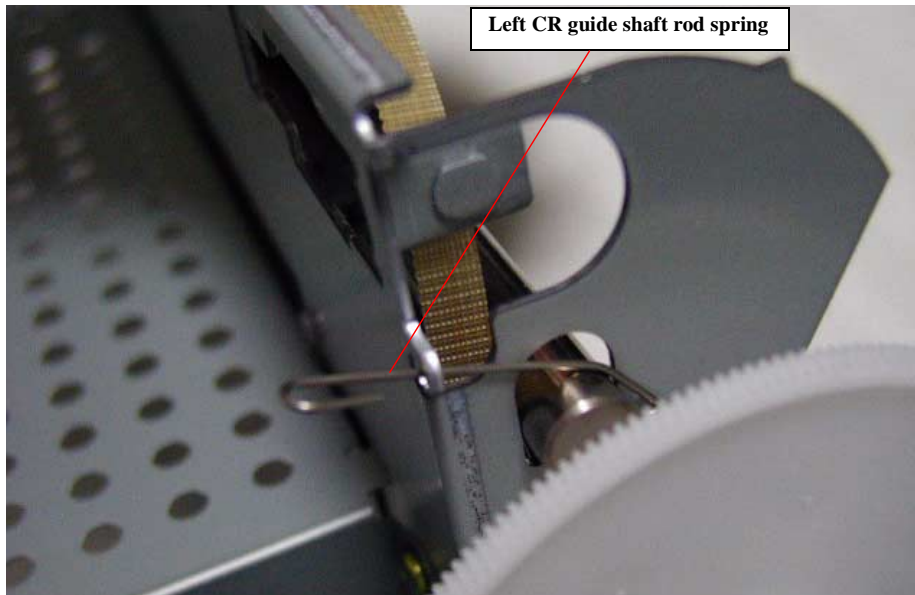
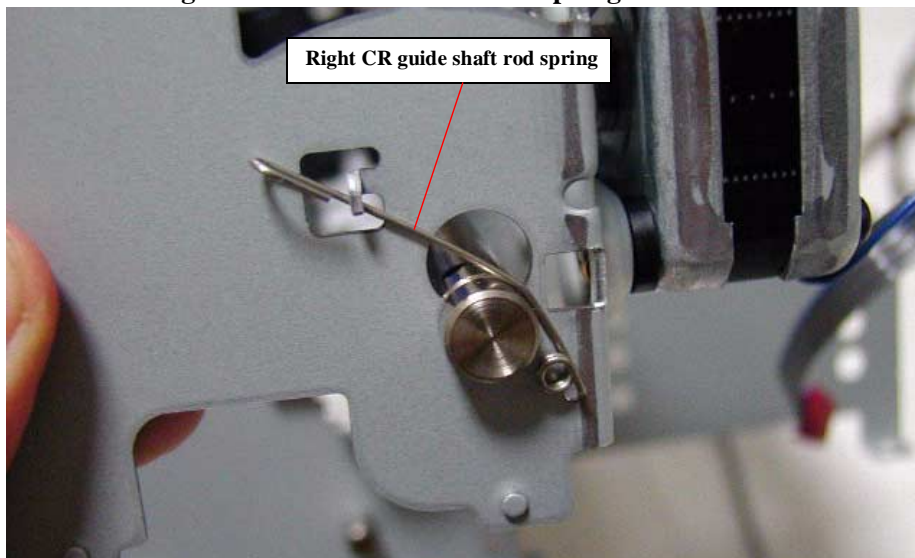

Figure 4-44. Release Left Rod spring for CR shaft
Figure 4-45. Release Right Rod spring for CR shaft
- Make sure that the CR guide shaft rod springs are correctly set in the suitable position. Refer to Figure 4-44, Figure 4-45.